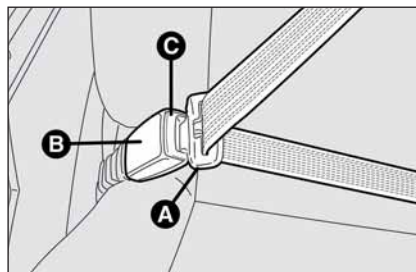

fig. 1
To fasten the seat belts, take hold of the tongue **A-fig. 1** and insert it into the buckle **B-fig. 1**, until hearing the locking click.
To unfasten the seat belts, press button **C-fig. 1**. Guide the seat belt with your hand while it is rewinding, to prevent it from twisting.
*Never press button C-fig. 1 when travelling.*